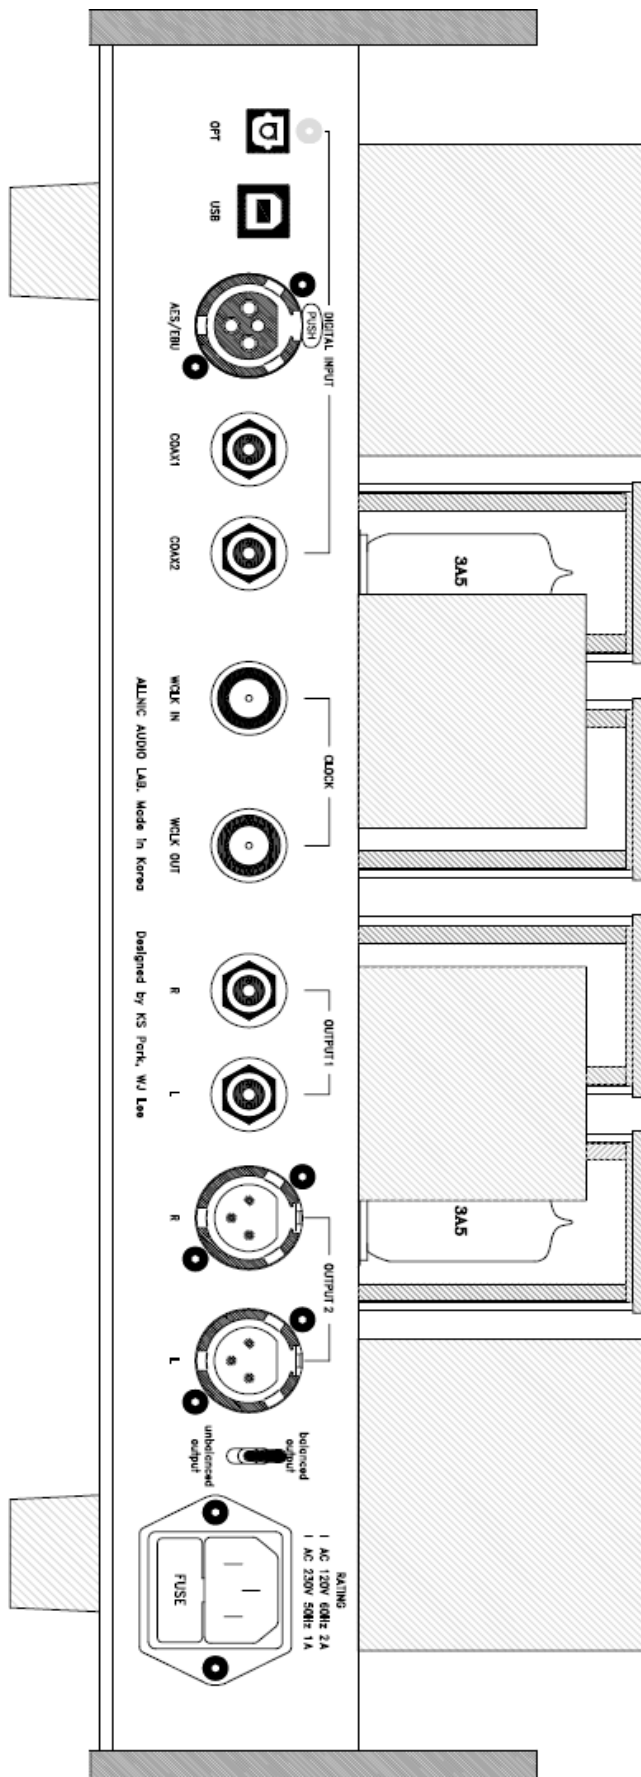

Figure 2
The D-5000 DHT is equipped with one pair of unbalanced or "single-ended" (RCA) outputs and one pair of true balanced (XLR) output connections. Each output pair is oriented horizontally. WHEN FACING THE REAR OF THE DAC (see Figure 2), the:
The left channel output connectors are labeled “L”, and the right channel output connectors are labeled “R” (See Figure 2).
The D-5000 DHT is equipped with BNC type in and out reference word clock connectors for use with an external clock (see Figure 2).
- selected the output connections that you want to use, single ended (RCA) or balanced (XLR), on the switch on the back of the DAC (See Figure 2)